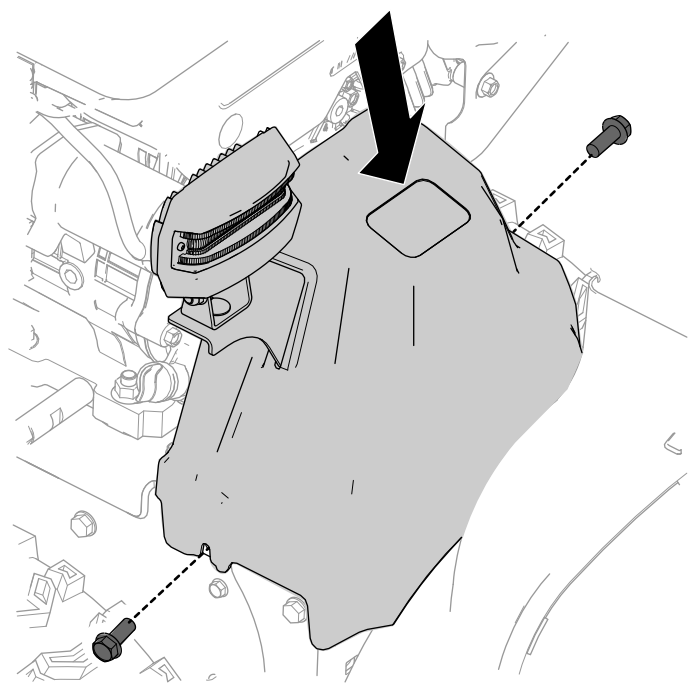

Figure 23
1. Install the belt cover to the machine, secure with the 2 screws (1/4 x 5/8 inch) (Figure 23).